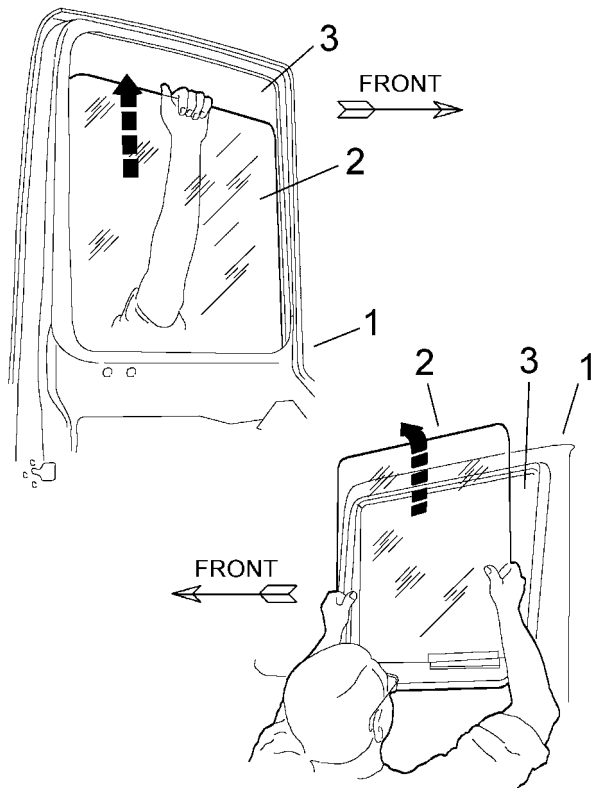

Figure 4 Remove Cab Door Glass
7. From the outside of the rear cab door, reach through the door window and move the glass upward then grasp the glass and pull it up and out of the door (Figure 4).